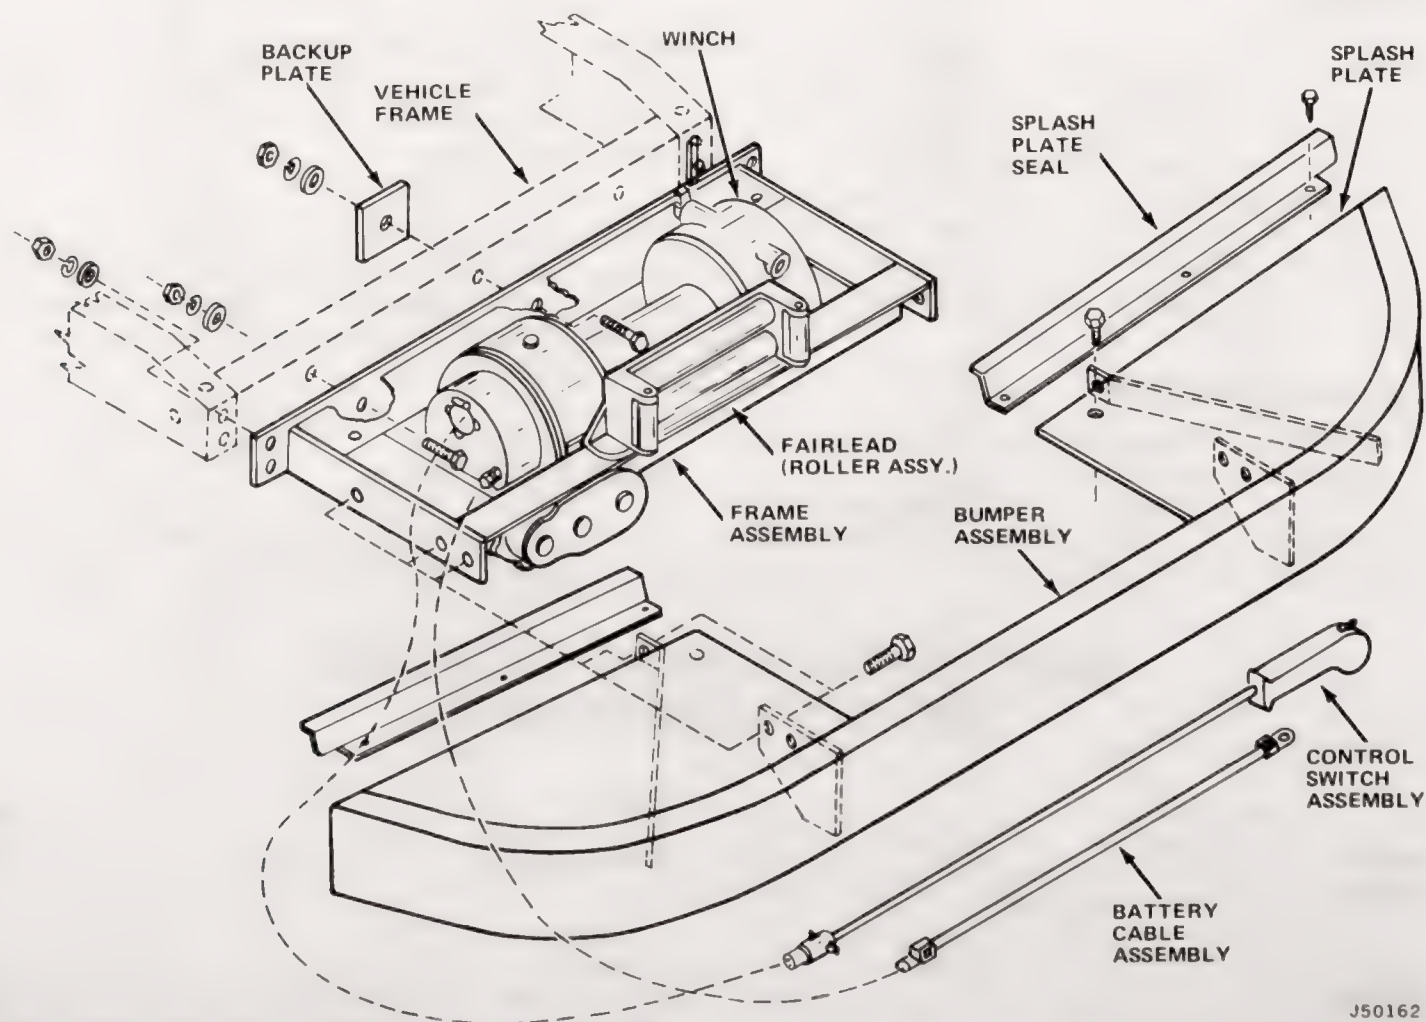

Fig. 5-6 Ramsey Electric Winch Kit Components—Cherokee-Wagoneer-Truck
Before beginning installation, check kit contents to be sure all necessary components are included (fig. 5-6).
(1) Position RH and LH splash plate seals (fig. 5-6).
(2) Secure seals to splash plate with 1/4-inch diameter by 3/4-inch long bolts, lockwashers, and nuts.